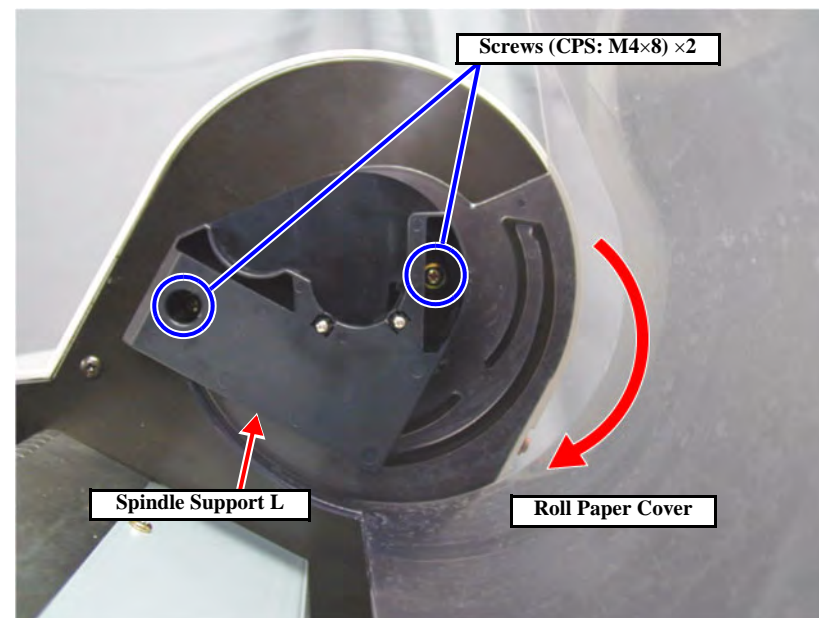

Figure 4-20. Roll Paper Cover removal
1. Open the Roll Paper Cover. (See Figure 4-20)
3. Remove the two screws (CPS: M4×8) and one screw (M4×12) securing the gray spindle support (Spindle Support R) on the right, and then remove the spindle support. (See Figure 4-20)